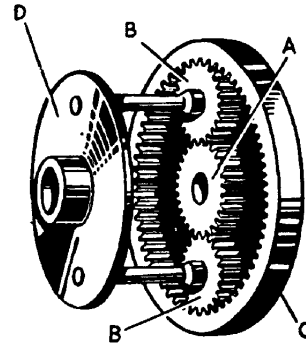
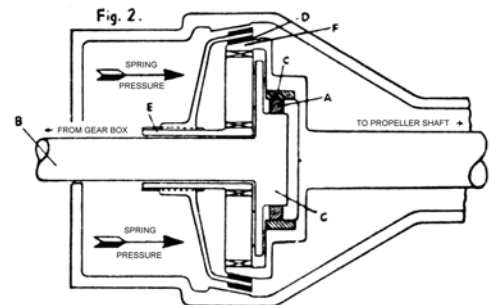

Fig. 1 Principle of an Epicyclic Gear
Fig. 2 Operation in Direct Drive
THE PRINCIPLE (Fig. 1)
In addition to an epicyclic gear train similar to the one depicted in Fig. 1, there is also a hydraulic pump, a hydraulic accumulator or pressure storage chamber, a roller clutch and a sliding cone clutch. When in direct top gear (see Fig. 2) the overdrive is inoperative.
The drive from the gearbox to the propeller shaft is taken through the rollers (A) from the gearbox main driving shaft (B) to the outer member of the uni-directional clutch (C), and so direct drive is transmitted. The roller clutch drives in one direction only, and therefore if the car were to over-run the engine, the rollers would be pushed down the inclined surfaces away from the annulus or output member and the drive broken, leaving the car without engine resistance to assist braking. This problem is overcome by means of a cone clutch (D). This clutch slides on the sun wheel splined extension (E) (Fig. 2) and it is pushed by springs to engage with the corresponding cone of the annulus (F). This, therefore, locks the sun wheel to the annulus. Between the annulus and the sun wheel are the planet wheels which are carried by the planet carrier (G) which is mounted on the driving shaft (B). The planet wheels are therefore also locked and resistance to over-run is provided by the engine through the gearbox and main drive shaft to the planet wheels.